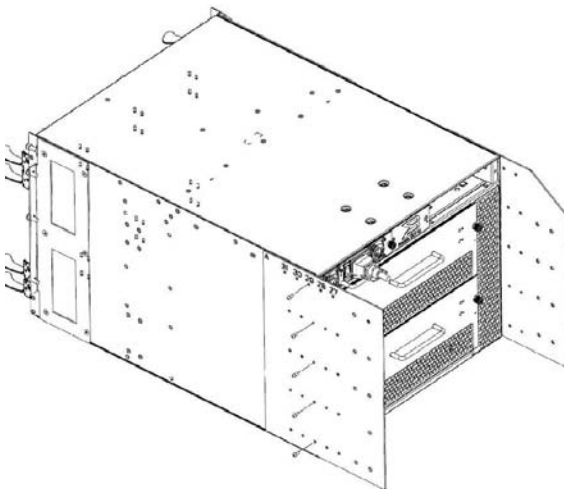

Figure 1-1
1. Prior to installing the chassis into the cabinet, remove the 10 flat head 6-32 fan bay attach screws located on both the left and right side chassis panels. (see Figure 1-1)
2. Install both side plates using the 10 pan head 6-32 screws supplied with the kit, making sure to note that the left and right side plates are different. The left side and right side plates are part marked with "A" and "B" respectively. (see Figure 1-1)